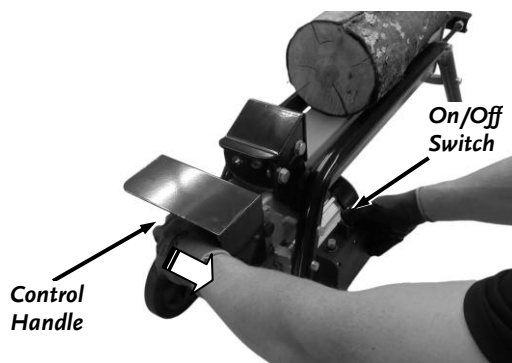

Figure 11
2. Using only your hand, pull the Control Lever to the right (**Figure 11**). If the log moves before it is contacted by the Ram, release the Handle and then reposition the log.